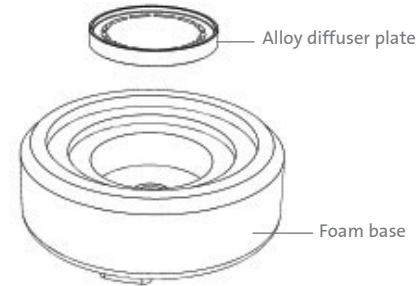

Figure 6
- ▶ Insert the alloy diffuser plate into the base cavity. The diffuser plate is reversible and cannot be inserted incorrectly. Ensure that the plate is all the way at the base of the chamber (Figures 6 and 7).